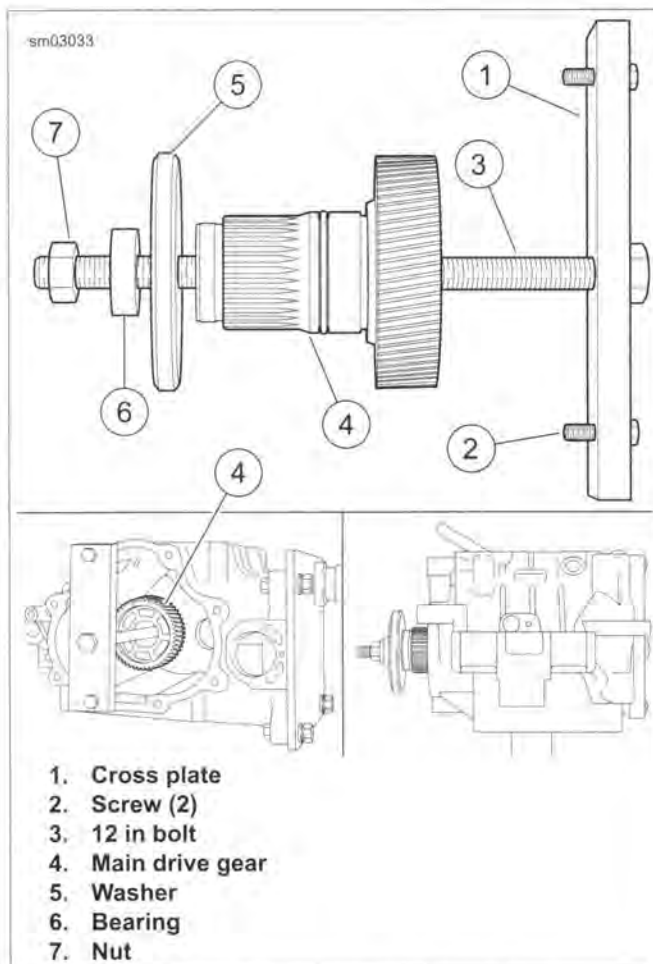

Figure 6-37. Removing Main Drive Gear
6. See Figure 6-37. Install CROSS PLATE (Part No. HD-35316-3A):
- a. Place cross plate (1) on right side of transmission case as shown.
- b. Position cross plate with large bolt hole in cross plate aligned with center of main drive gear (4).
- c. Secure with two screws (2).
7. Apply a light coat of graphite lubricant to the threads of the 12 IN BOLT (Part No. HD-35316-5) (3). Insert through cross plate and main drive gear.
8. At left side of transmission case, place WASHER (Part No. HD-35316-7), BEARING (Part No. RS-25100-200) (6) and nut (7) over end of bolt. Tighten nut until main drive gear is free.